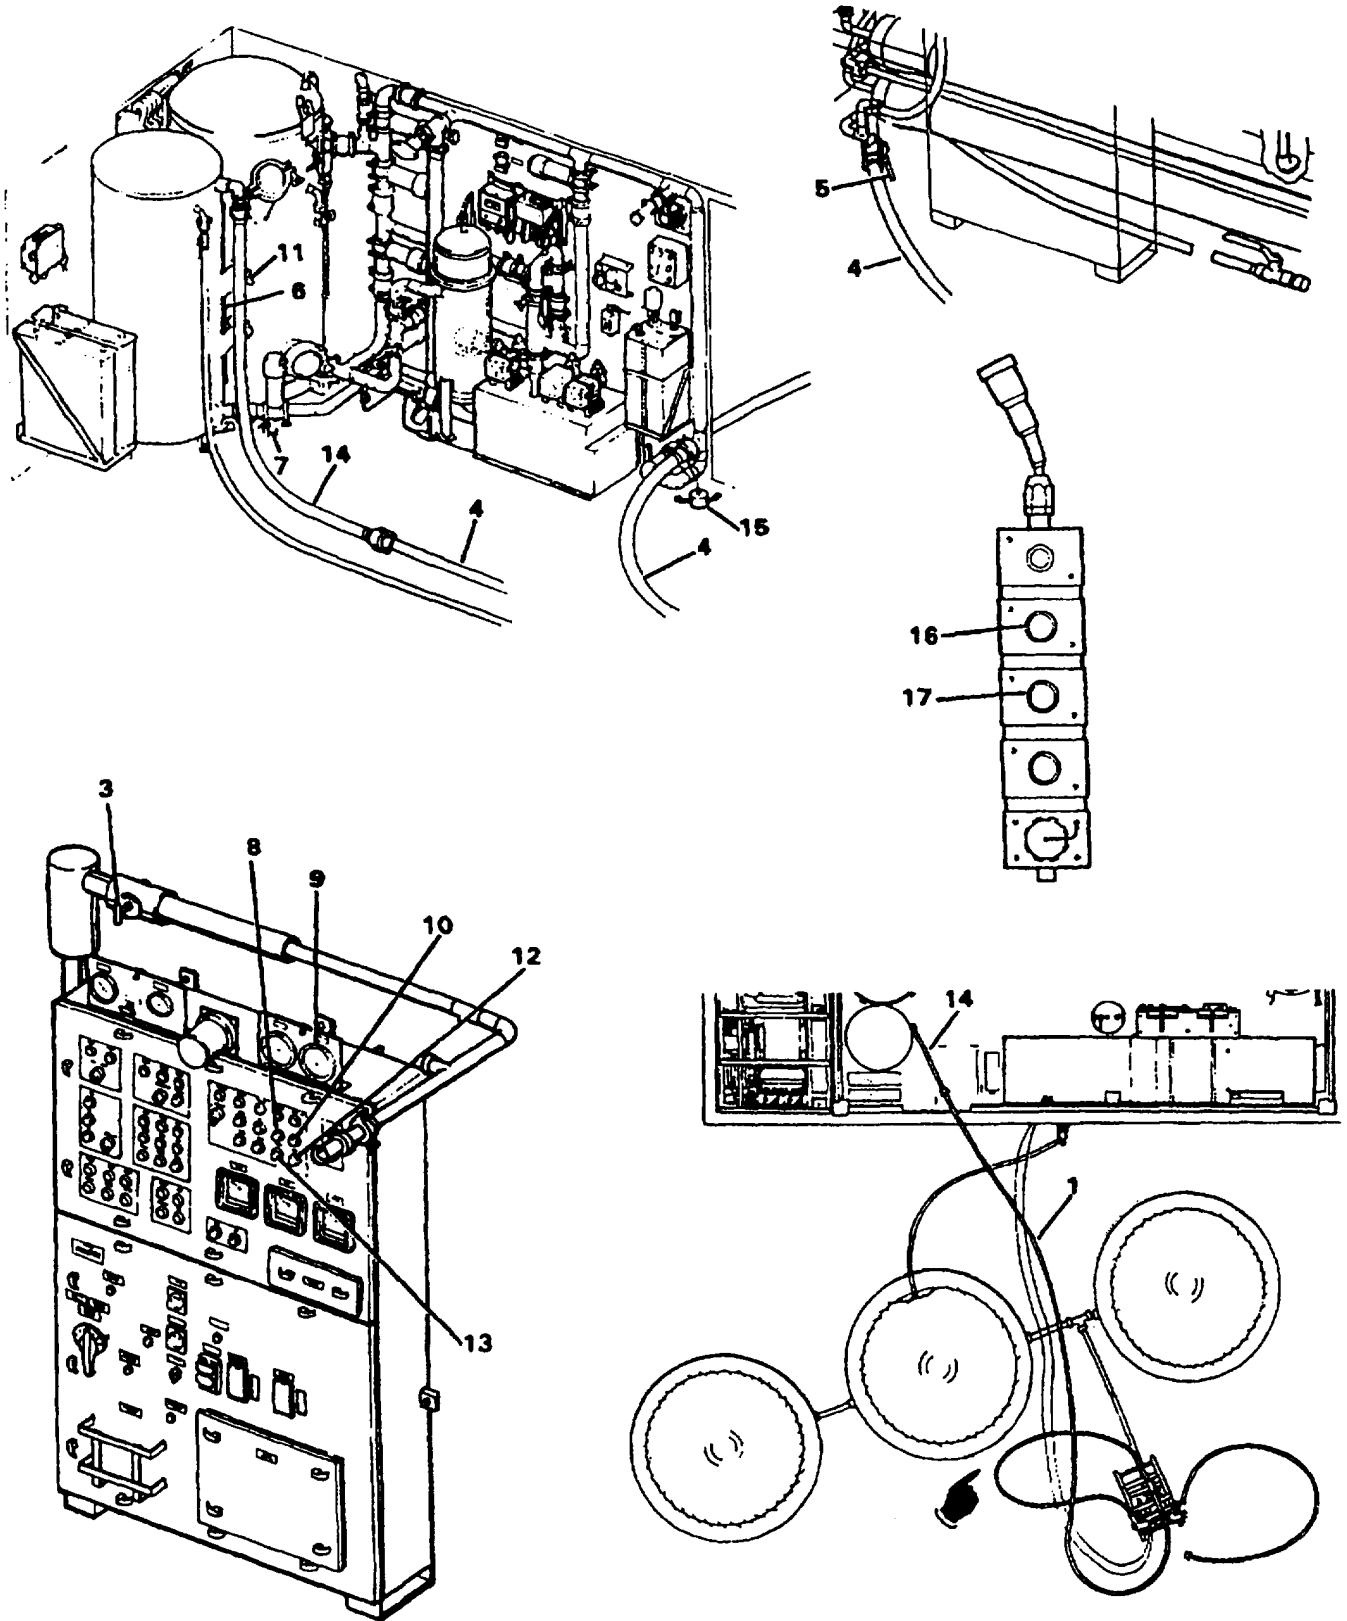

Figure 2-60. Citric Acid Cleaning
c. Citric Acid Cleaning (Figure 2-60).
- (1) Set-up to clean.
- (b) Remove auxiliary hose (1) from overflow hose (14).
- (c) Fully close system pressure control valve (3).
- (d) Connect the clean return hose (4) to the clean/flush tank overflow hose (14).
- (e) Open the clean return valve (5).
- (2) Establish Circulation (Figure 2-60).
- (a) Press BOOSTER PUMP START (8). Hold pushbutton in until feed pressure low light goes off.
- (b) Press HIGH PRESSURE PUMP START (10).
- (d) After establishing a known pH, remove chemical port cover (11) from clean/flush tank and add citric acid as needed until pH of the water circulating through the elements is as close to, but not below 3.5 ppm, as possible.
- (g) Once pH is adjusted, install chemical port cover (11) and secure with wing nut.
- (h) Circulate for 1 hour. Press HIGH PRESSURE PUMP STOP (12). After 1 minute press BOOSTER PUMP STOP (13).
- (3) Flush cleaning solution (Figure 2-60).
- (a) Close the clean return valve (5).
- (b) Remove clean return hose (4) from the clean/flush tank overflow hose (14).
- (c) Remove waste out cap (15) (inside) from waste out connection.
- (d) Connect clean return hose (4) to waste out connection.
- (f) Press BOOSTER PUMP START (8). Hold pushbutton in until feed pressure low light goes off.